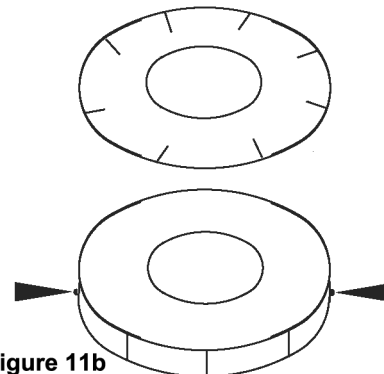

Figure 11b
3. As an alternative to step 2, to have an overhang, the flashing/support is trimmed approximately 2" larger in diameter than the marked outline (see Figure 11b). It is then slit and folded to fit down over the chimney. The screws are installed from the side once it is siliconed in place, as per step 6.
6. Place the trimmed Flashing/Support over the Flexible Liner. Lower the Flashing/Support so that the plate comes to rest on the factory-built chimney. Press the plate firmly into the silicone to create a good seal, and secure into place with #8 x 3/8" stainless sheet metal screws, as per Figure 11b or 12.
7. Slide the Liner Round Top and the Flexible Liner back through the Flashing/Support assembly until the skirt of the Round Top comes in contact with the collar of the Flashing/Support. Install the four (4) sheet metal screws (provided), using the prepunched holes in the flashing collar and through the flex and Round Top. Apply silicone sealant to any exposed lances, holes or screws.